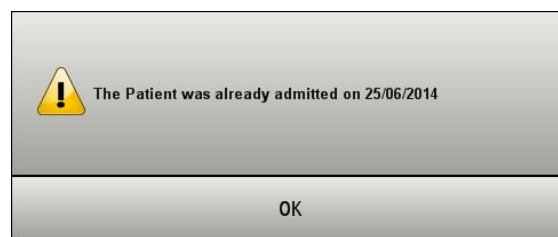

Fig 51
4) Window without timer with single option (Fig 51)
The window shown in Fig 51 provides information regarding a procedure error. There is no timer here, the kind of information provided requires a reading confirmation from the user (click **Ok**).